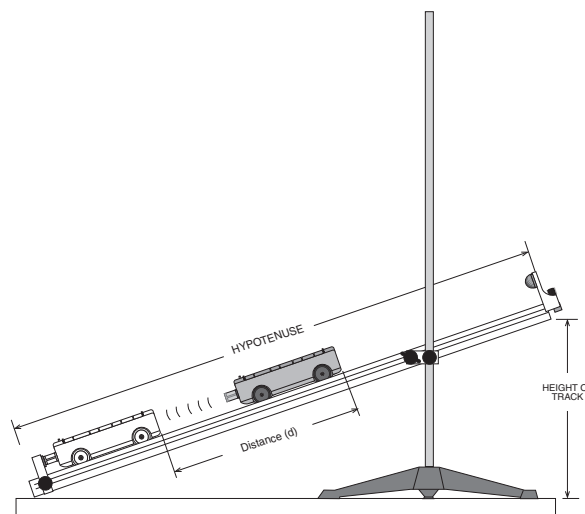

Figure 9.2
8. Incline the track and measure its height and hypotenuse (see Figure 9.2) to determine the angle of the track.